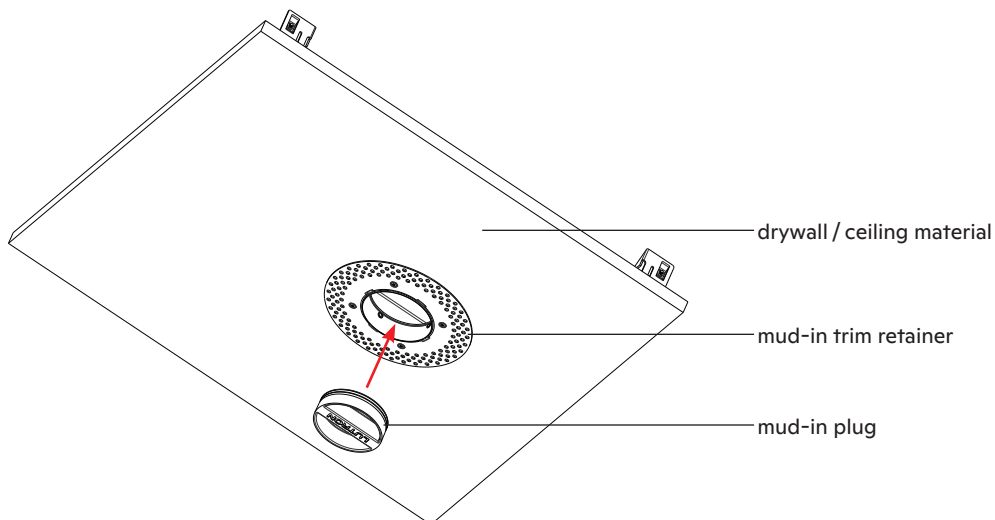

fig. 18
1. Make sure the mud-in plug is installed prior to applying the joint compound (see fig. 18).